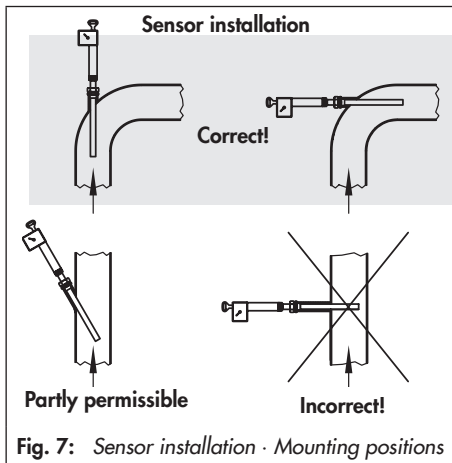

Fig. 7: Sensor installation · Mounting positions
*The entire length of the sensor must be immersed in the process medium. Observe the permissible mounting position as illustrated in Fig. 7.*